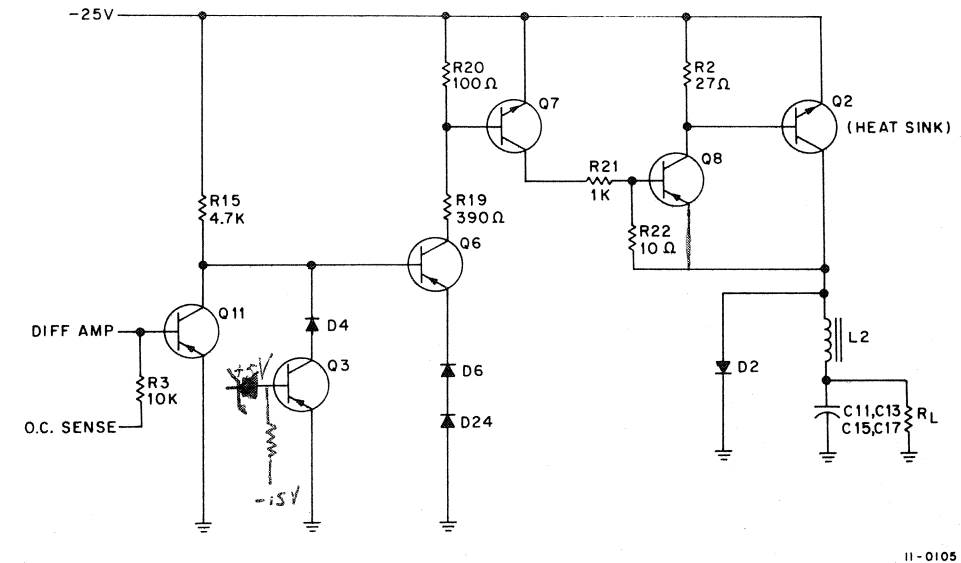

Figure 2-10 -15 Volt Driver
2.4.2.1 Driver — The -15V driver (see Figure 2-10) controls the state of switching transistor Q2 on the heat sink. The driver is controlled by signals from three sources: the -15V differential amplifier, the -15V overcurrent-sensing circuit, and the +5V low-sensing circuit. The first two signals control the base of transistor Q11. However, the input from the +5V low-sensing circuit effects control through transistor Q3. This is a departure from the circuit in the +5V regulator which connects all three inputs to the base of transistor Q10.